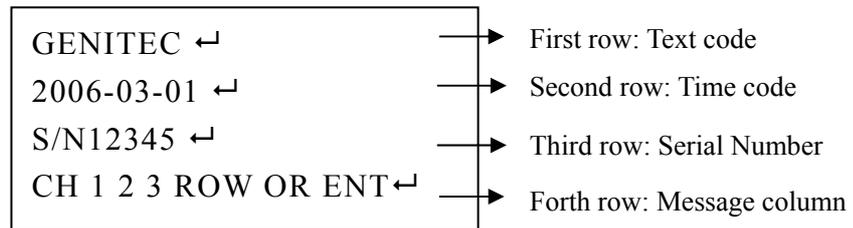

Figure 28
6. Press the button  (Entry the editing page to do modification) The message column will display's "CH 1 2 3 ROW OR ENT"(Refer to figure 28) :